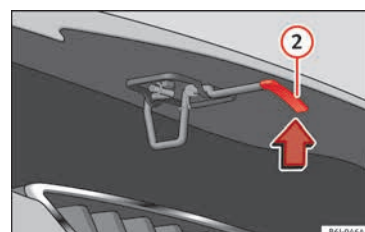

Fig. 7 Cam under the bonnet
- Lifting up the bonnet: press the release catch under the bonnet upwards » **Fig. 7** ②. The arrester hook under the bonnet is released.